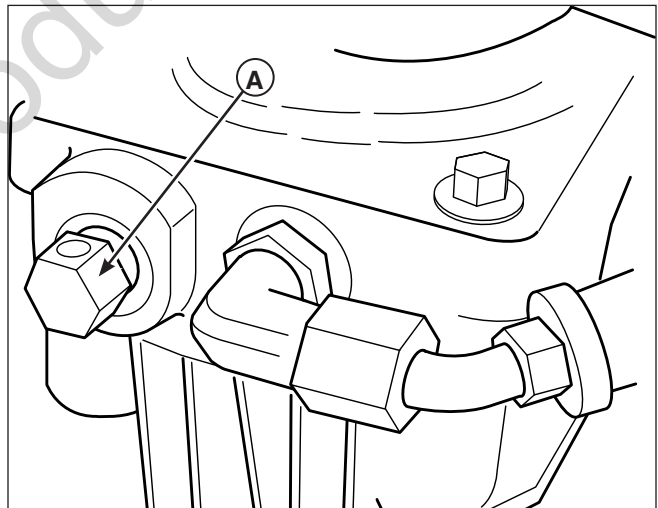

Figure 4. Hydraulic System By-Pass
3. To disengage the pumps (free-wheel position), turn the hydraulic release valves (**A, Figure 4**) located on the pumps COUNTER-CLOCKWISE a maximum of 2 full turns.